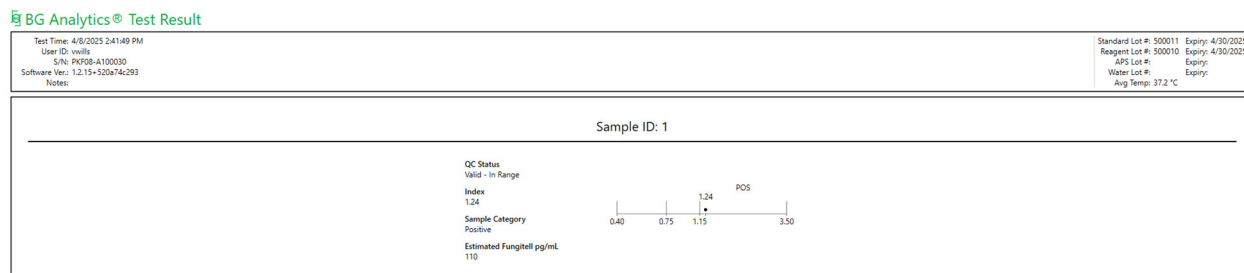

Figure 17. BG Analytics® Test Results Report for Sample with a Positive Result
BG Analytics® will display **Test Result** report. An example of a report is shown in Figure 17.
- Quality Control (QC) Status
- a. Index value falling within the range of 0.40 to 3.50 will be marked within the graphic. Indeterminate Index will be marked between 0.75 and 1.15. An example of a sample with valid QC Status and Positive Index value is shown in Figure 17.